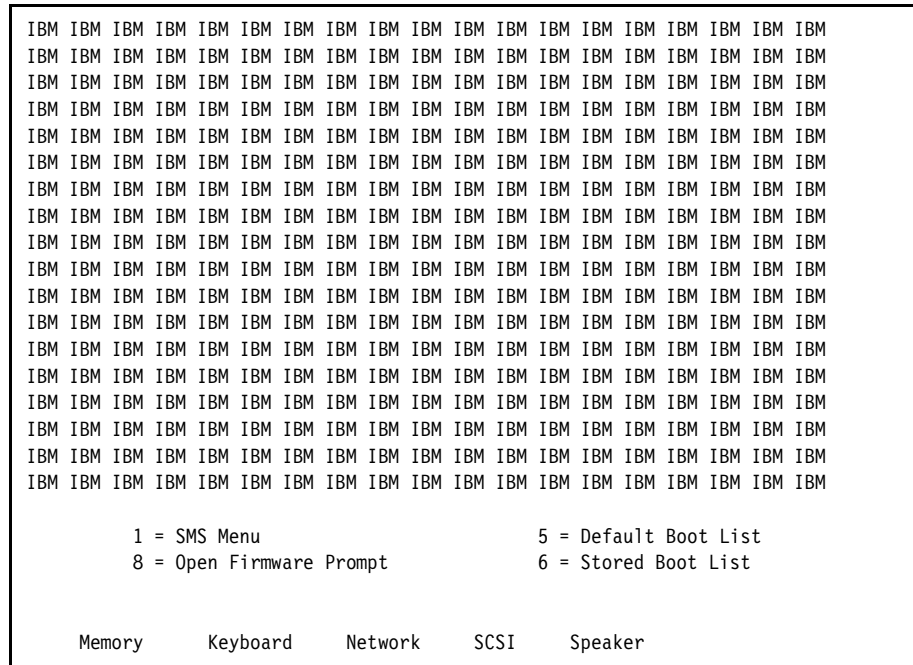

Figure 9-42 SMS menu
3. Reboot or power on the server, virtual server, or partition and press 1 when prompted to access SMS mode, as shown in Figure 9-42.